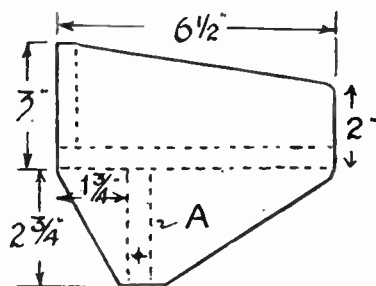

Fig. 1—Dimensions of the sides
The sides of the car are shown at Fig. 1, the shape being pencilled out direct to the wood to save time. The easiest method here is to pencil out a rectangle to the outside dimensions first, then the lining out of the pattern is simplified. The position of the seat, backrest and under crosspiece (A) are shown clearly by the dotted lines.
Cut the seat, taking its dimensions from Fig. 1 and 2, the latter a front view. To the bottom of the seat, at a distance from the rear end of $1\frac{1}{4}$ ins., as